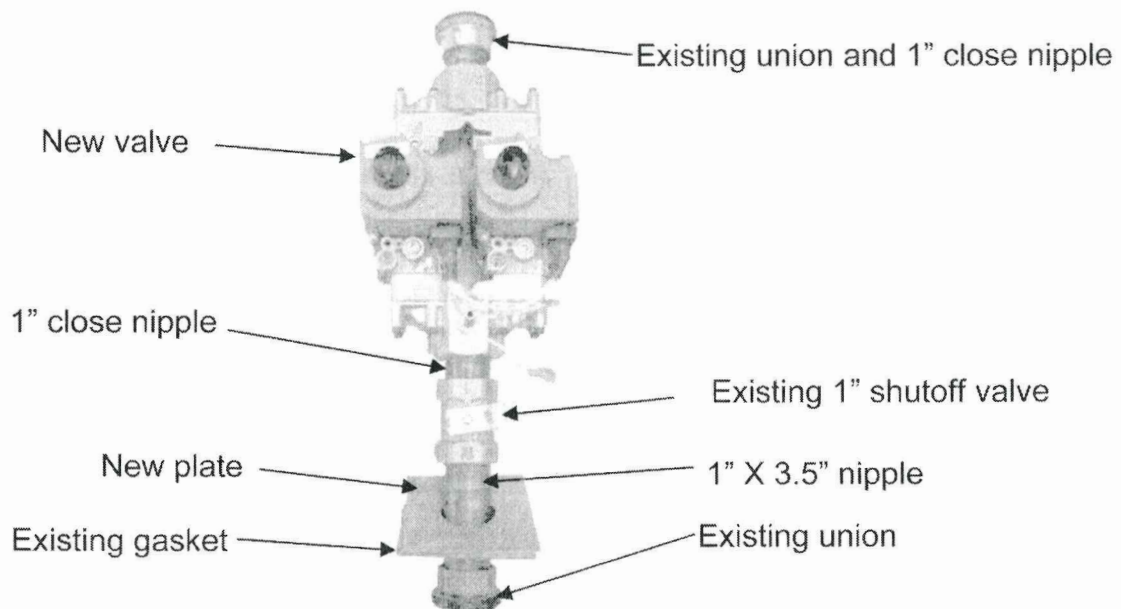

FIGURE 7 – 5 BURNER VALVE ASSEMBLY.
Installation - Refer to Figure 7:
11. Remove old gas valve from gas train assembly. (Valve removed should be Robert Shaw 7000 DERHC on a 5 burner manifold.) (See figure 7 below).